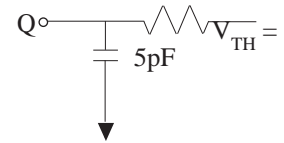

Fig. 2 Output Load Equivalent
- tLZCE, tLZWE, tLZOE, tHZCE, tHZOE and tHZWE are specified with CL = 5pF as in Fig. 2. Transition is